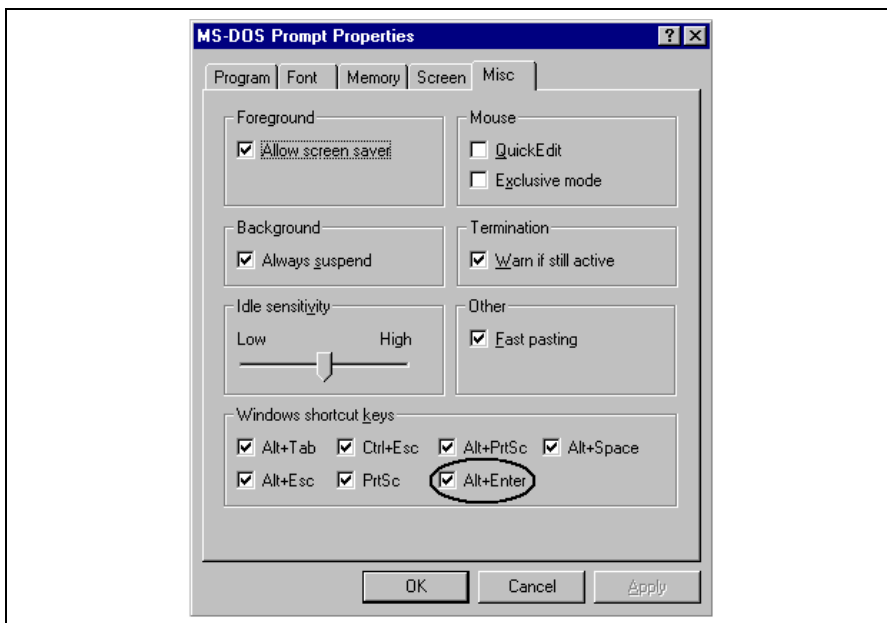

Figure 4.1 [Misc] Page
- Note: In the MS-DOS prompt, if the display of the screen is not switched after pressing the [Alt + Enter] key, mark the [Alt+Enter] check box in [Windows shortcut keys] of the [Misc] page on the [MS-DOS Prompt Properties] dialog box and click the [Apply] button to update the settings, as shown in figure 4.1.